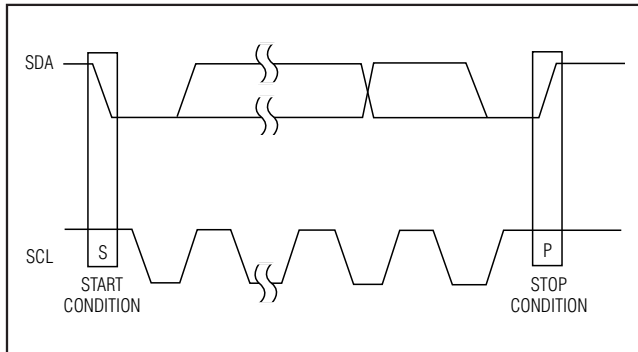

Figure 6. Start and Stop Conditions
Each transmission consists of a START condition sent by a master, followed by the MAX6618 7-bit slave address, plus an R/W bit, one or more data bytes, and finally a STOP condition (Figure 6). To write to a MAX6618 register, a write transmission consists of a START condition, followed by the MAX6618 7-bit slave address plus $R/\overline{W} = 0$, a register address byte, one data byte, and finally a STOP condition. To read from a MAX6618 register, a combined write and read transmissions are required. The first write transmission consists of a START condition, followed by the MAX6618 7-bit slave address plus $R/\overline{W} = 0$, a register address byte, and finally a STOP condition that sets the register to be read. The second read transmission consists of a START condition, followed by the MAX6618 7-bit slave address plus $R/\overline{W} = 1$, one or more data bytes, and
Both SCL and SDA remain high when the interface is not busy. A master signals the beginning of a transmission with a START (S) condition by transitioning SDA from high to low while SCL is high. When the master has finished communicating with the slave, it issues a STOP (P) condition by transitioning SDA from low to high while SCL is high. The bus is then free for another transmission (Figure 6).